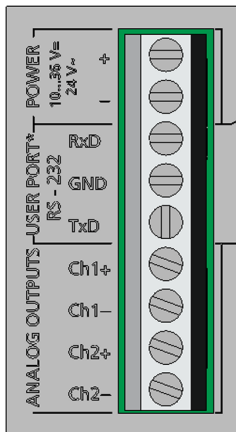

Figure 1 Signal and Power Supply Screw Terminals
3. Connect the cables of analog output channels 1 and 2 to terminals **Ch1+**, **Ch1-** and **Ch2+**, **Ch2-** on the screw terminal block. See Figure 1 on the left.